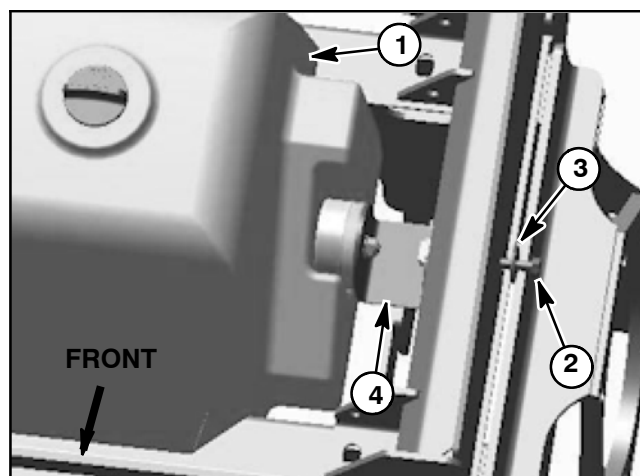

Figure 53
1. Position hydraulic reservoir to machine. Make sure that recess bumper (item 3) on right side of frame is inserted into tank slot.
2. Slide tank mount assembly (items 15, 16, 3, 17, 18 and 19) between frame and hydraulic reservoir and position bumper into slot on left side of reservoir. Align tank mount with hole in frame. Secure mount with cap screw and flat washer (Fig. 53).